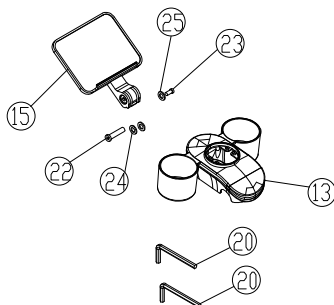

Figure 3
3. Align the upper and lower cover plates (Part 13) with the groove on the Phone Holder (Part 15), then secure them with M8×35 locking screws (Part 23), M6×12 locking screws (Part 24) and two flat washers (Φ16×Φ8.5×1, Part 25). Tighten all fasteners using a 5 mm hex wrench (Part 21), as shown in Figure 3.